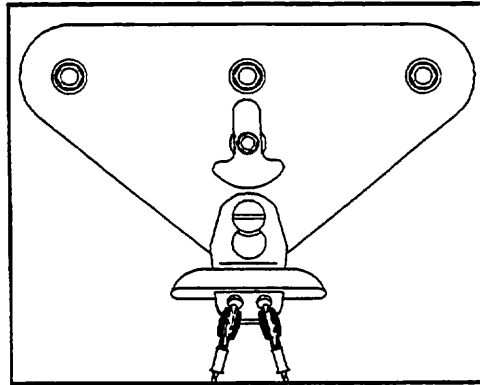

Figure 33
2) After the tang is installed, slid back and fully engaged on the collared bolt, rotate the anchor to the position shown in figure 33 to secure the tang. With the anchor in this position, the tang cannot move forward sufficiently to disengage from the bolt.